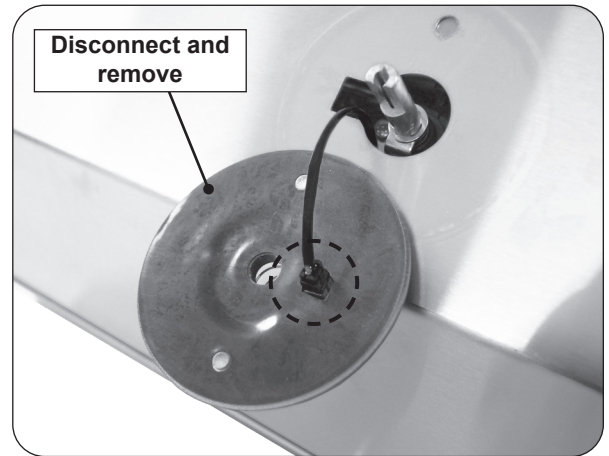

Fig. 1-1 Disconnect and remove old LED disk
3. Locate the LED disk you wish to replace. Disconnect the disk from the wires and discard the disk. See Fig. 1-1.